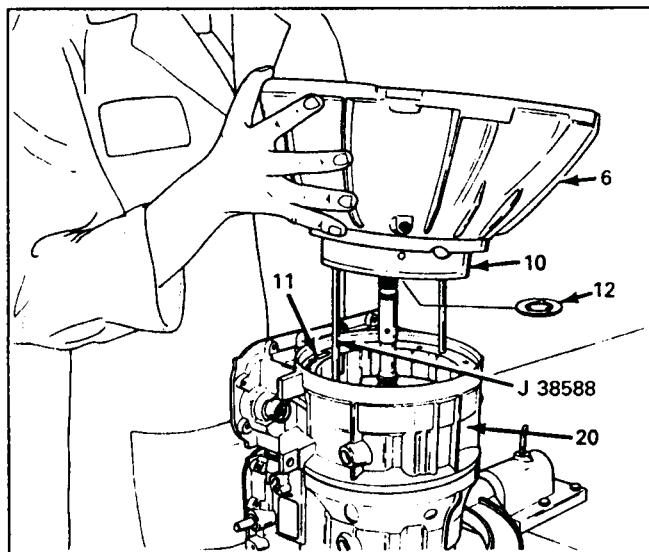

Figure 109
35. Install the pre-selected selective thrust washer from above, onto the oil pump assembly with tabs down, retain with petrolatum (See Figure 109).
36. Install the pre-assembled converter housing and oil pump assembly by placing over guide pins J-38588 and seating to the adapter case, as shown in Figure 109.